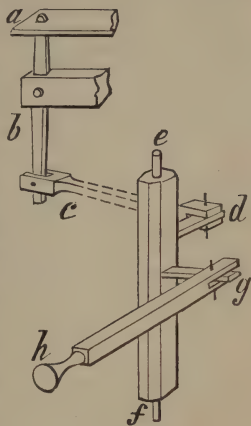

Fig. 48.
*Method 2.*—If it is preferred to place the draw-stops to the right and left of the player, as in large organs, we shall have the bridges and levers as before. The draw-bars will run through guides at the back, fixed to some part of the frame, and their polished ends will be brought through lined holes in the cheeks of the case, fitted according to taste. The connection of these horizontal draw-bars with the vertical levers will be effected by squares or bell-cranks of a form known as "trundles." We give a representation of one of these in Fig. 48, where *a* is the slider, *b* the lever acting upon it,